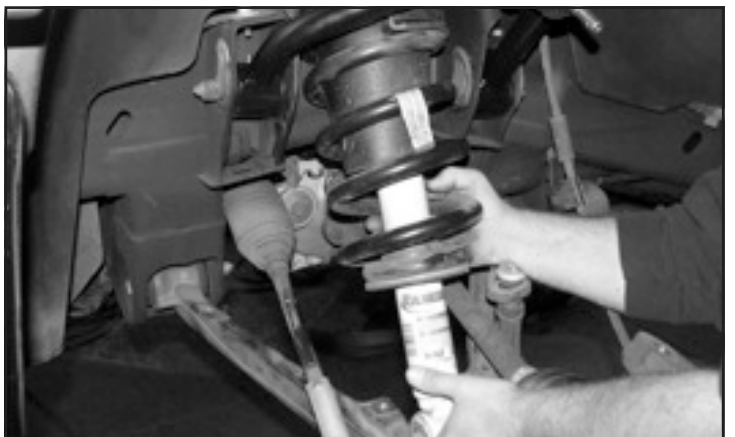

FIGURE 35 - STEP 35
35. Locate the three 7/16" nylock nuts and install the coil over into the upper shock mount. Leave loose at this time. **SEE FIGURE 35**